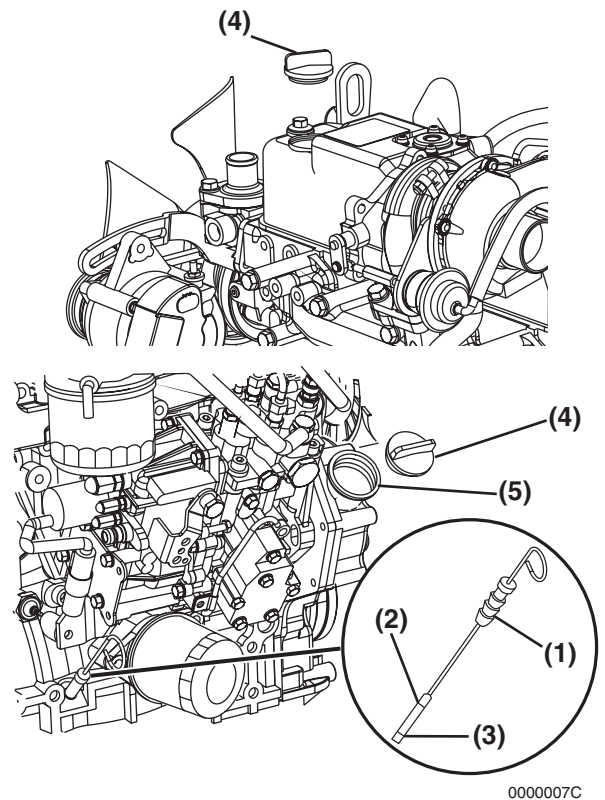

Figure 4-5
2. Remove the dipstick (Figure 4-5, (1)) and wipe it with clean cloth.
4. Remove the dipstick. The oil level should be between the upper (Figure 4-5, (2)) and lower (Figure 4-5, (3)) lines on the dipstick.
2. Remove the oil cap (**Figure 4-5, (4)**).
3. Add the indicated amount of engine oil at the top or the side engine oil filler port (**Figure 4-5, (5)**).
6. Reinstall the oil cap (**Figure 4-5, (4)**) and hand-tighten. Over-tightening may damage the cap.